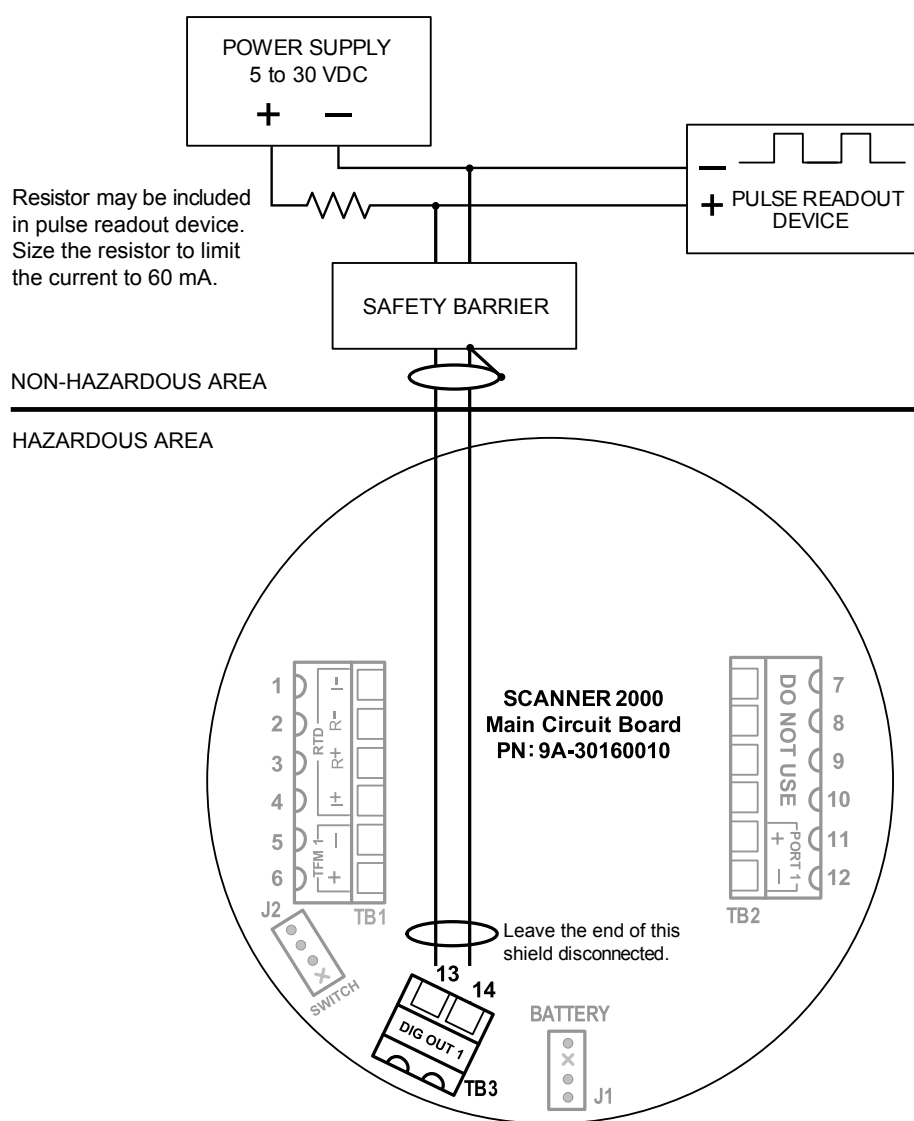

Figure 3.7—Pulse output wiring
- Connect digital output wiring to TB3. See Figure 3.7, page 52.
The standard Scanner 2000 supports a solid-state digital output that is configurable as either a pulse output or an alarm output. As a pulse output, the pulse width duration and pulse representation are both configurable. Because the circuit is isolated, it can be used in conjunction with any other feature on the Scanner 2000. A two-conductor cable from the Scanner 2000 to the remote location is required. The electrical safety ratings of the digital output circuit are $U_o = 0$, $U_i = 30$ Vdc, and $I_i = 60$ mA. Maximum frequency is 50 Hz. Wire as shown in Figure 3.7.